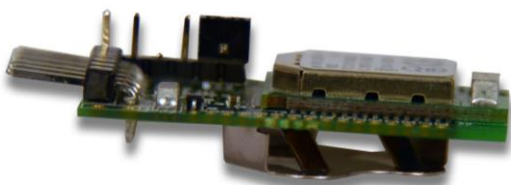

Figure 15: Coin cell battery slot
6. Install a coin cell battery (CR1632)(Figure 15) in the slot on the bottom of the module.